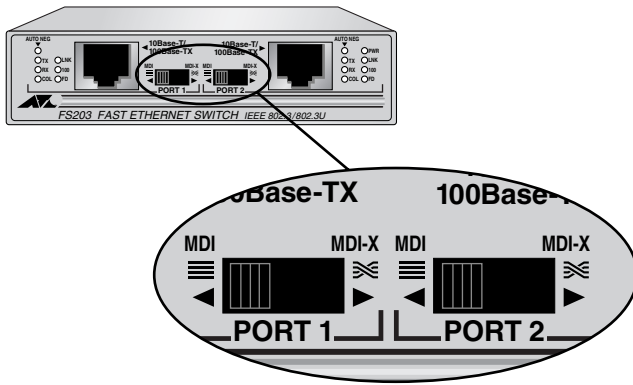

Figure 13 MDI/MDI-X Switch
7. For an AT-FS201 or AT-FS202 switch, plug the fiber optic cable into Port 1. Verify that the near-end node transmitter port (TX) is connected to the far end node receiver port (RX) and vice versa.
- ☐ If you are connecting the twisted pair port to a hub or to another switch, set the MDI/MDI-X switch to the MDI position. See Figure 13.